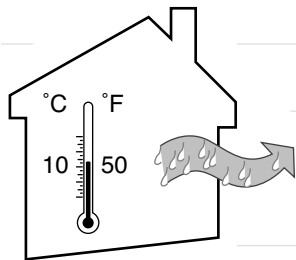

FIGURE 65
- ◆ Maintain a minimum temperature of 10°C (50°F) for two days before, and four days after, treatment. Loss of bond will occur if the temperature is too cold (see Figure 65).